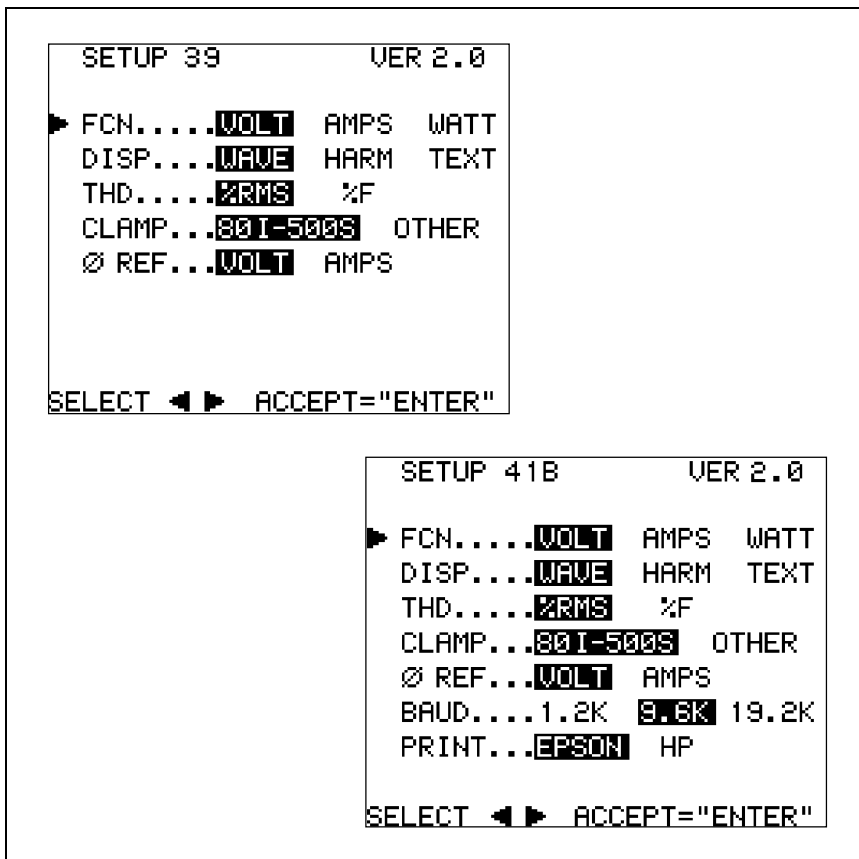

Figure 17. Configuration Screens
1. Press while pressing to turn the Tester on. The configuration screen appears. (See Figure 17.)